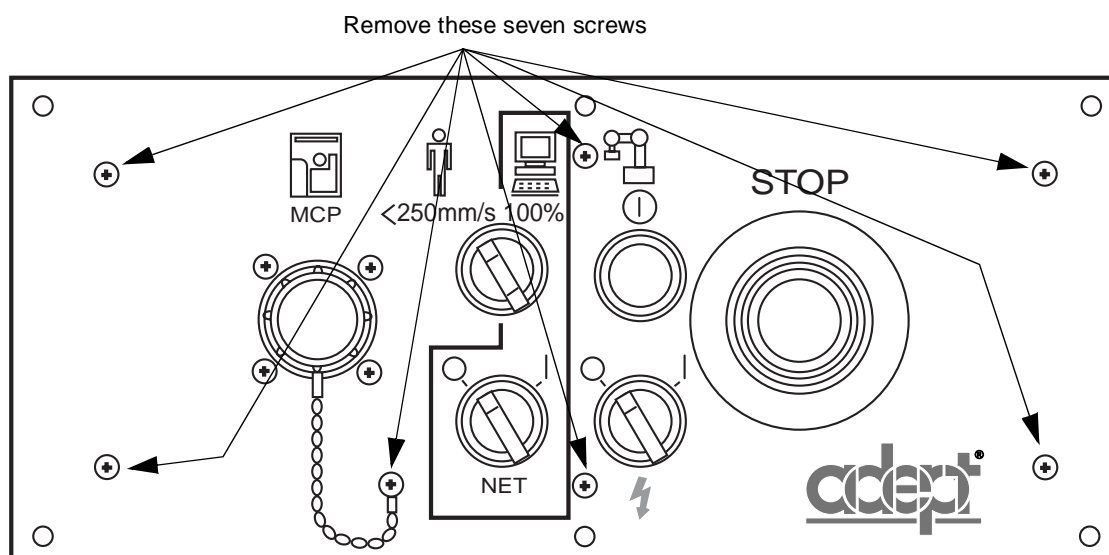

Figure 9-3. CIP Front Panel Screws
4. Remove the seven screws from the front of the CIP, including the MCP bypass plug retaining screw (see Figure 9-3).